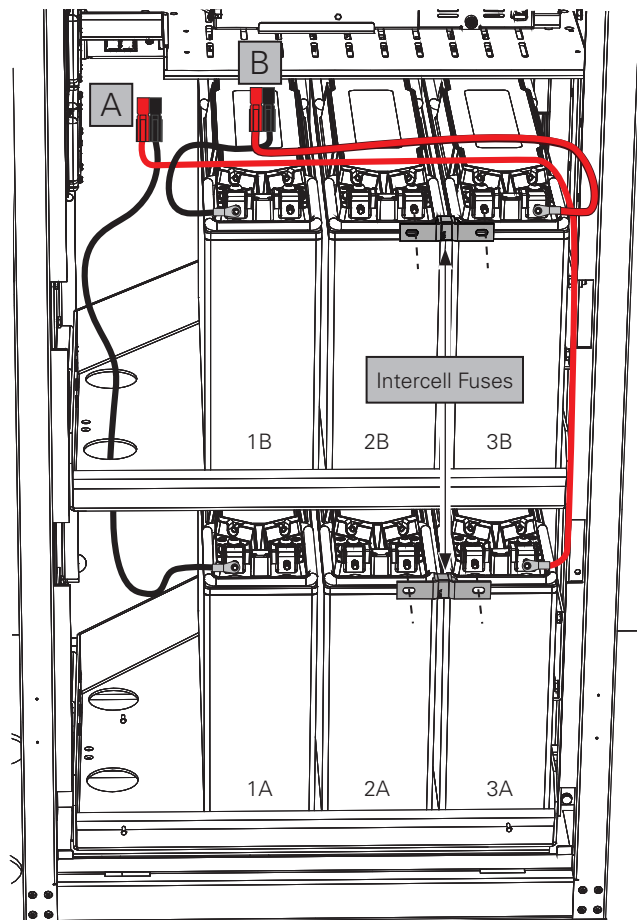

Fig. 2-6, Installing Battery Cables and Intercell Fuses
- A. Start with A string battery cables on the bottom tray of the PN-4 FT enclosure. Route the black wire through the hole in left side of the top tray as seen in Fig. 2-6. Route the red wire along the right side of the enclosure.